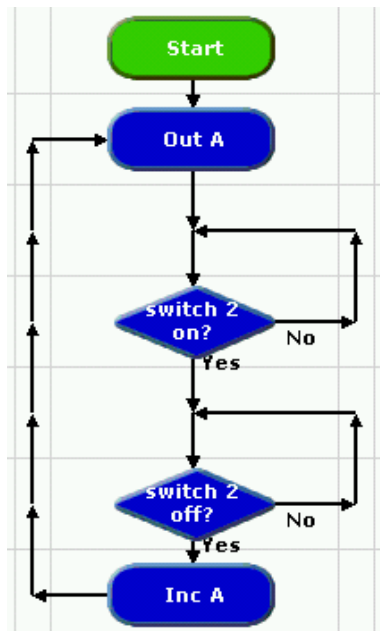

Fig 19. Counter with display but no memory.
The program shown in Fig 19 counts switch presses and displays the count in binary form using the LEDs on the T-board.
- Build the program shown in Fig 19. Test run it; then download it and try it in the T-board.